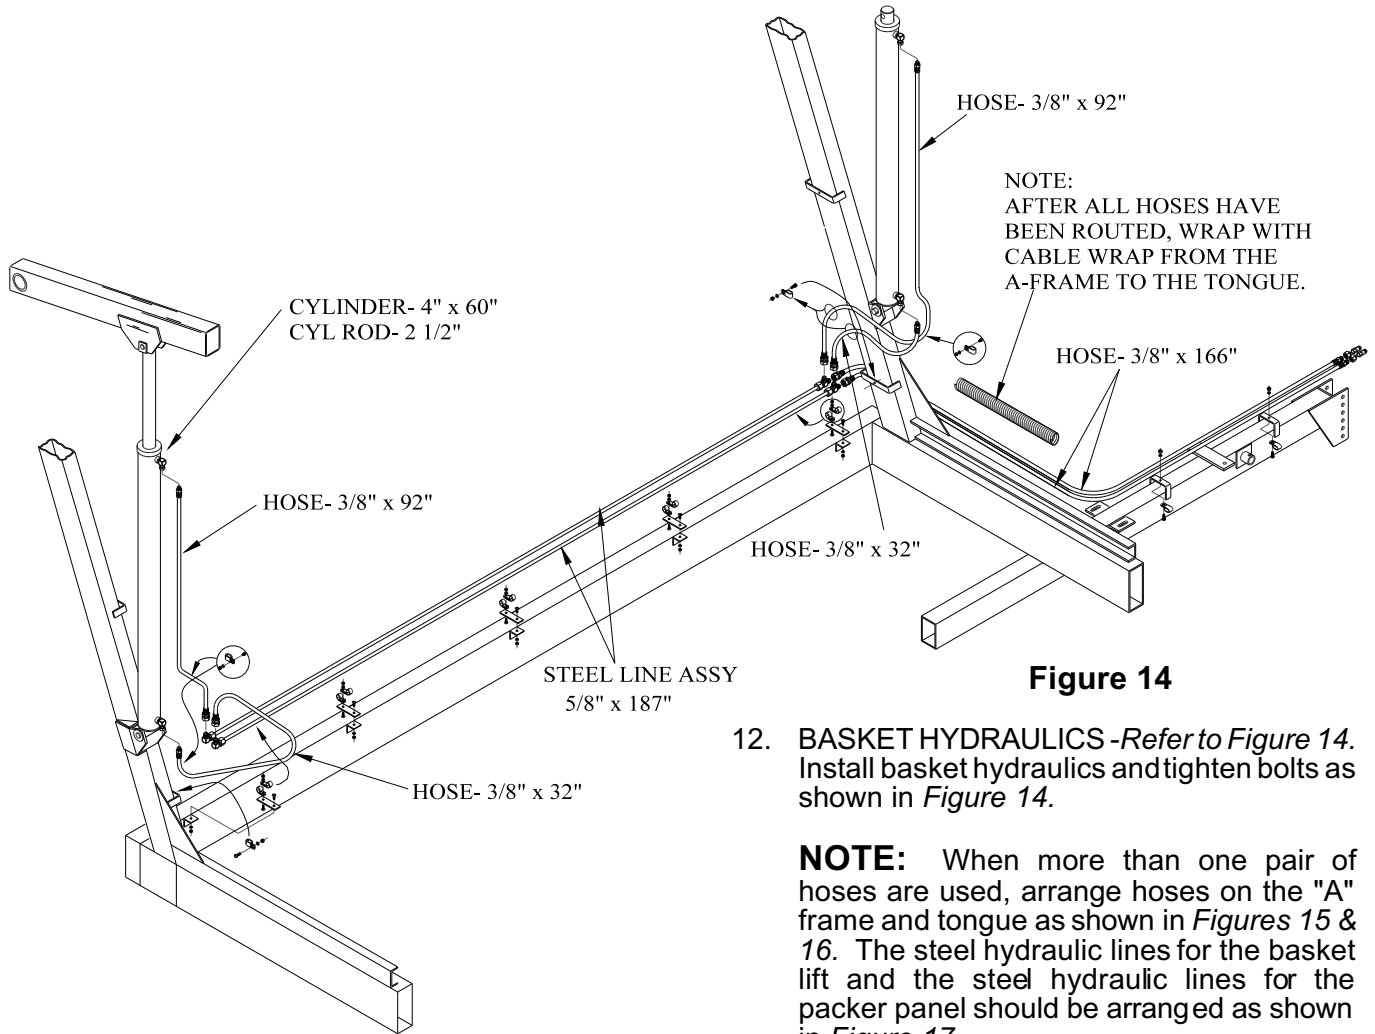

Figure 14
12. BASKET HYDRAULICS -Refer to Figure 14. Install basket hydraulics and tighten bolts as shown in Figure 14.